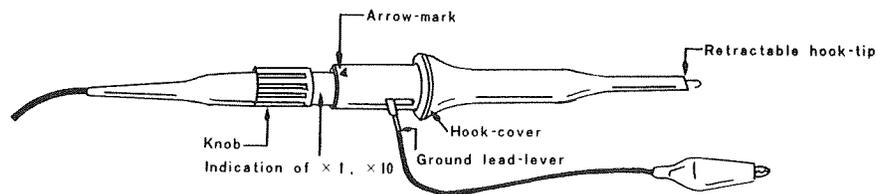

Fig. 4-7 LP-16Y probe structure.
- b. As shown in Fig. 4-7, the probe is composed of a retractable tip, a handle switch, and ground clip lead.